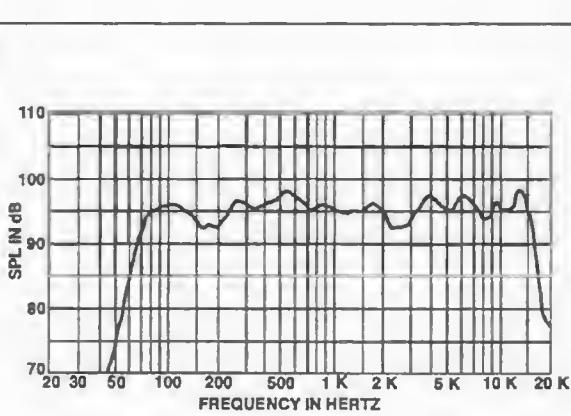
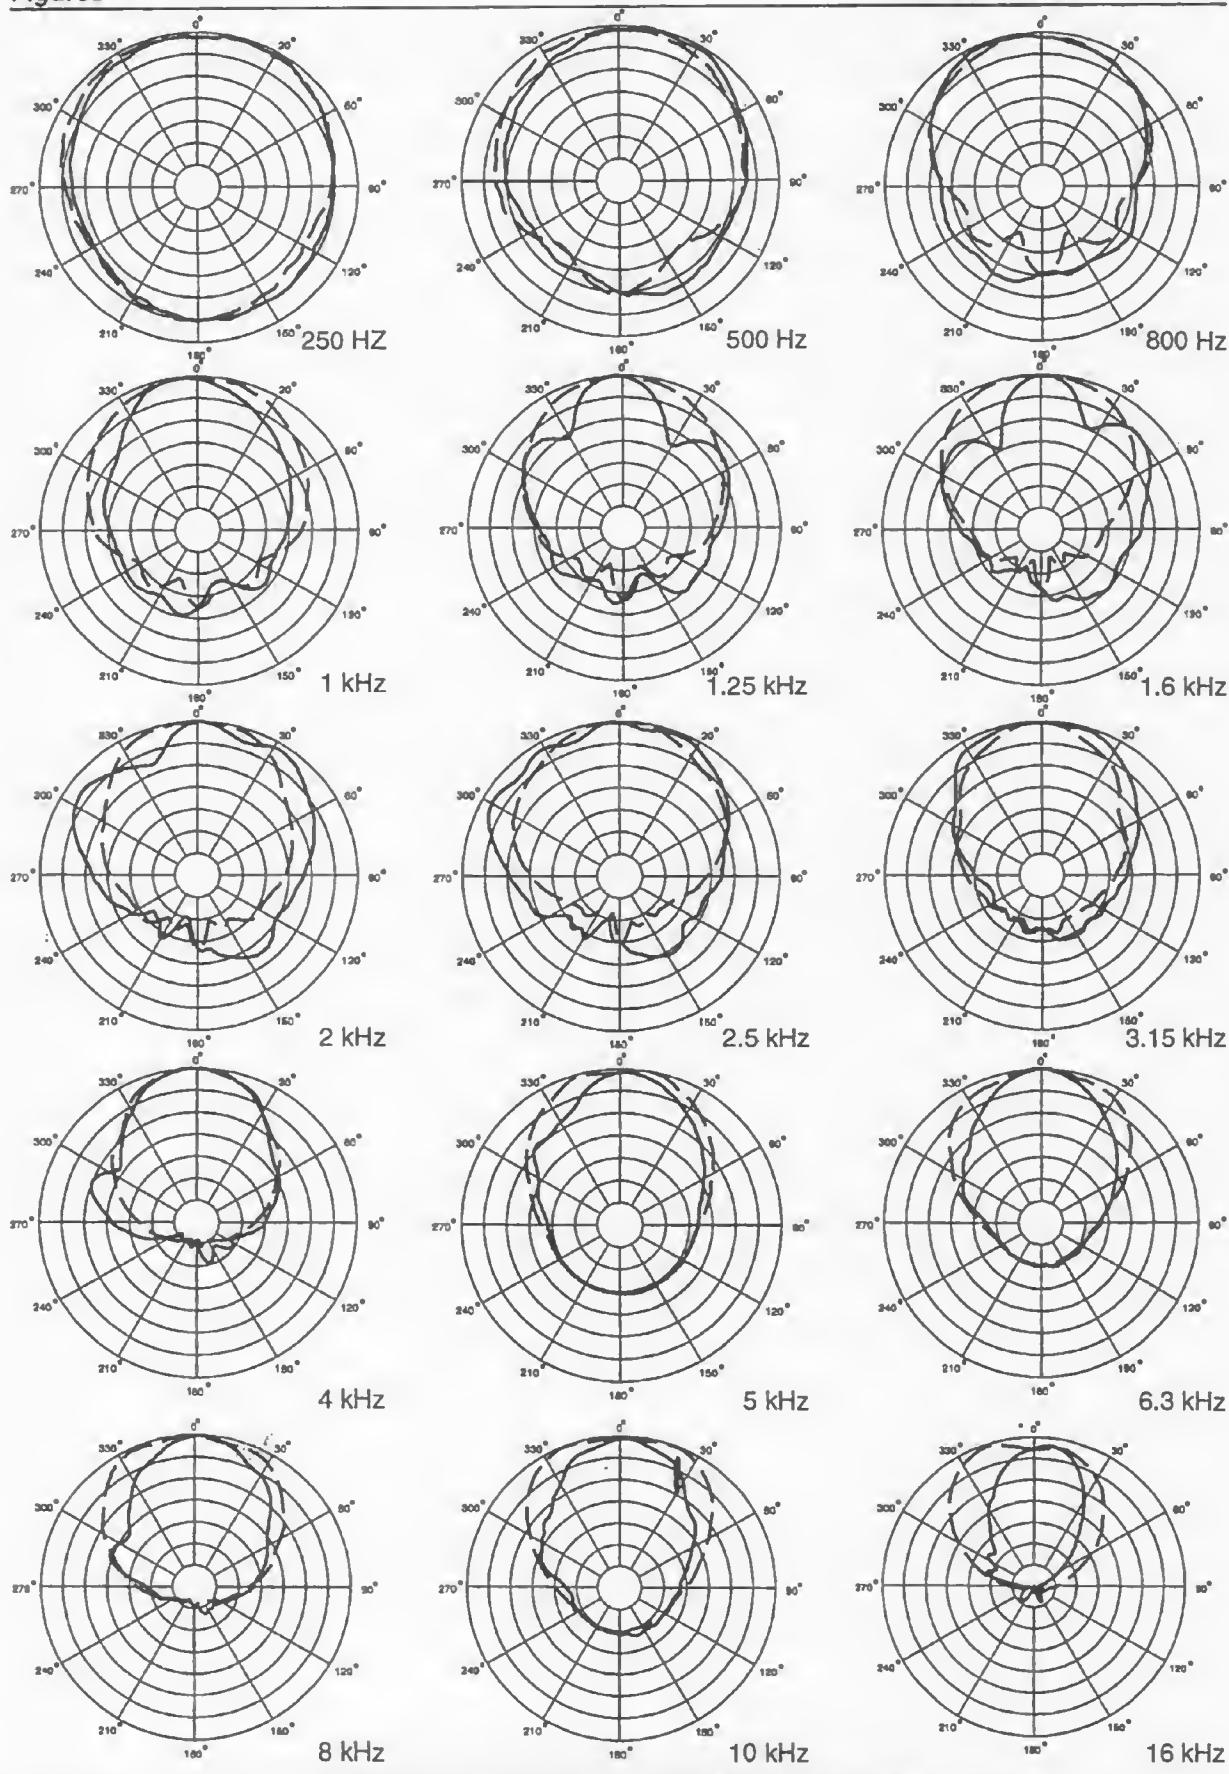
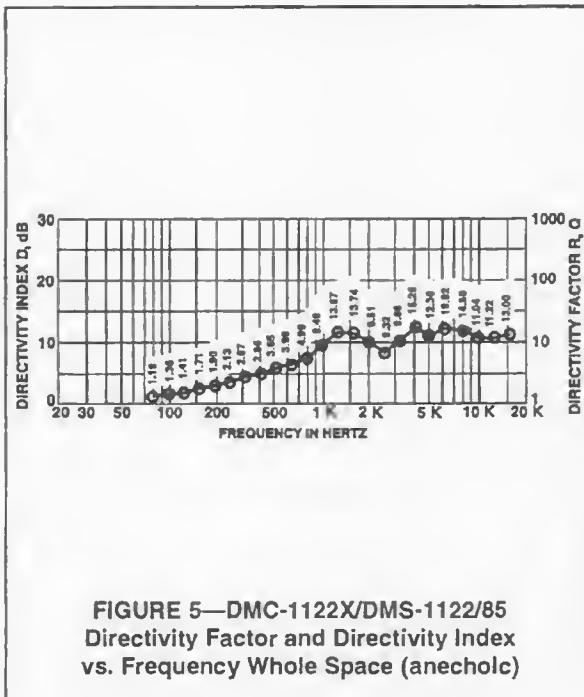
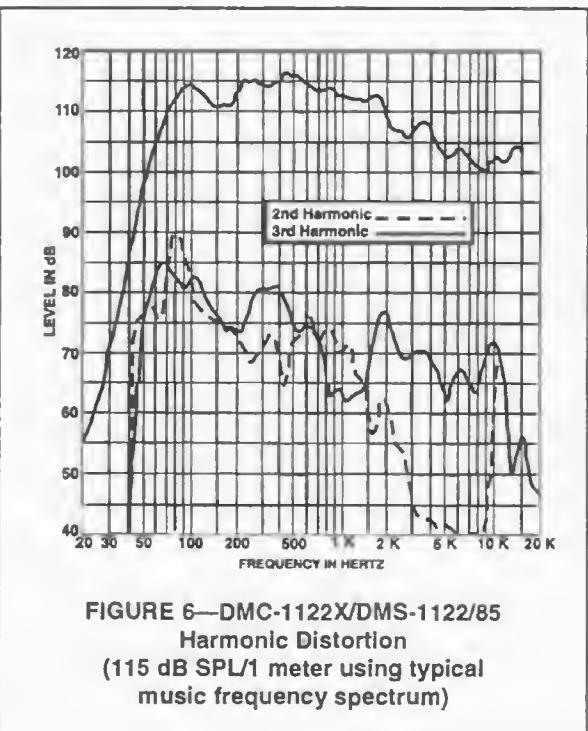

FIGURE 1—DMC-1122X/DMS-1122/85
FIGURE 3—DMC-1122X/DMS-1122/85 Polar Response
FIGURE 5—DMC-1122X/DMS-1122/85
FIGURE 6—DMC-1122X/DMS-1122/85
CHANNEL CONFIGURATIONS: Monoaural two-way; two sense channels FILTER TYPE: 4th-order Linkwitz-Riley CROSSOVER FREQUENCY: 1,480 Hz GAIN: 5 dB nominal SIGNAL-PATH EQUALIZATION (see Figure 1), LF EQ: -3 dB at 40 Hz, +11 dB at 84 Hz LF Signal Delay: 0.03 ms at crossover frequency HF EQ: 4th order optimized for DMS-1122/85 series driver and horn TOTAL HARMONIC DISTORTION, 20 - 20,000 Hz: 0.03% typical, 0.1% maximum NOISE, EACH OUTPUT, 20 - 20,000 Hz NBW, TYPICAL: -86 dBu SIGNAL INPUT, Type: Electronically balanced differential Maximum Level: +18 dBu Impedance: 27,000 ohms and .0015μf CMRR, Typical: -55 dB	Connector: Female 3-pin XLR-type SENSE CHANNEL INPUTS, Type: Floating differential Maximum Level, LF: 145 V rms HF: 145 V rms Impedance: 100 kilohms each side to ground Connector: Two five-way binding posts OUTPUTS (LF and HF): Type: Electronically balanced differential Maximum Level: +18 dBu Minimum Load Impedance for Full Level: 600 ohms Connectors: Male 3-pin XLR-type POWER REQUIREMENTS: 100, 120, 220, 240 V ac, 50 - 60 Hz, 13 W CHASSIS CONSTRUCTION: Painted steel COLORS: Gray front panel/black chassis with white graphics MOUNTING: EIA 19-inch rack mount, 1.75 in. high, 8.97 in. behind panel (including connectors); supplied with front-panel security cover for controls.
Frequency Response (measured in far field, calculated to one meter on axis, swept sine wave, one watt into LF section - 2.83 V at 250 Hz, anechoic environment; see Figure 1): 60-16,000 Hz Crossover Frequency: 1,480 Hz Efficiency, LF/HF: 4.8/25 % Maximum Long-Term-Average Power-Handling Capacity (per ANSI/EIA RS-426A 1980), LF/HF: 300/60 watts Maximum Long-Term-Average Midband Acoustic Output, LF/HF: 14/15 acoustic watts Sensitivity (SPL at one meter, indicated input power, anechoic environment, average level), LF/HF, 1/1 watt: 99.0/110.0 dB 300/60 watts: 124.0/128.0 dB	Beamwidth (angle included by 6-dB-down points on polar responses, indicated one-third-octave bands of pink noise; see Figures 3 and 4), Horizontal, 1,200-16,000 Hz: 80° (+15°, -30°) Vertical, 1,200-16,000 Hz: 55° (+70°, -20°) Directivity Factor, R (Q), 1,200-16,000 Hz Average (see Figure 5): 12.3 (+4.0, -6.0) Directivity Index, D, 1,200-16,000 Hz Average (see Figure 5): 10.9 dB (+1.2 dB, -2.9 dB) Distortion (115 dB SPL at one meter, shaped spectrum; see Figure 6), Second Harmonic, 100 Hz: 2.4% 500 Hz: 0.7% 2,000 Hz: 2.1% 5,000 Hz: 1.0%
NOTE: The gain has been structured within the DMC-1122X controllers so that DMS-1122/85 loudspeaker will have a flat frequency response (as shown in Figure 1) in an anechoic environment with the output levels of the controllers set in the 0-dB-detent position and with the amplifier channels having identical gain driving the LF and HF sections of the speaker.